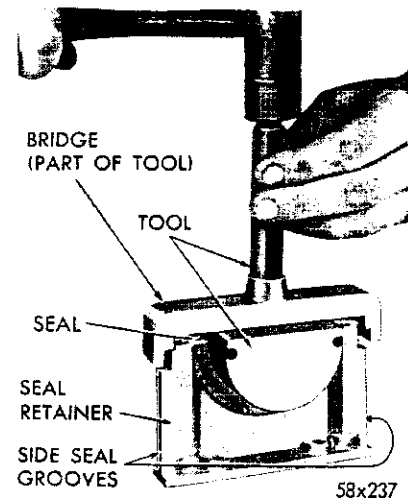
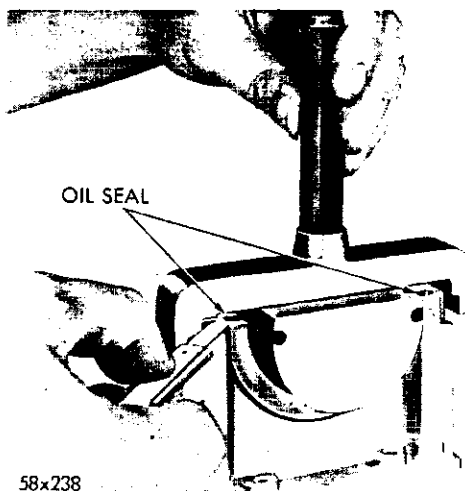

Fig. 53—Installing Rear Main Bearing Lower Oil Seal
Fig. 54—Trimming Rear Main Bearing Lower Oil Seal
(1) Install a new seal in the seal retainer so that the ends protrude. Figure 53.
(2) Install the bridge on tool and tap the seal down into position with Tool C-3625 until tool is seated.
(3) Trim off the portion of the seal that protrudes above the cap Figure 54.